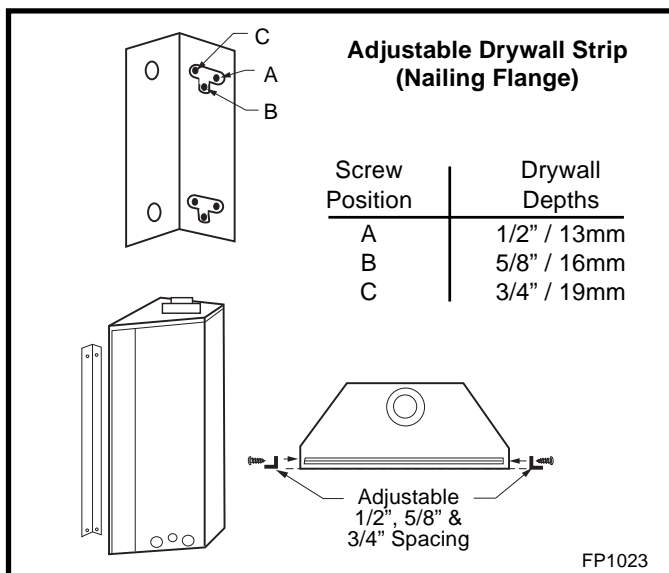

Fig. 3 Nailing flanges.
2. Nailing flanges are supplied with the fireplace (found on the fireplace hearth). To level the box and secure it firmly in place, remove the nailing flanges from the hearth and install at the sides of the fireplace as shown in Figure 3.